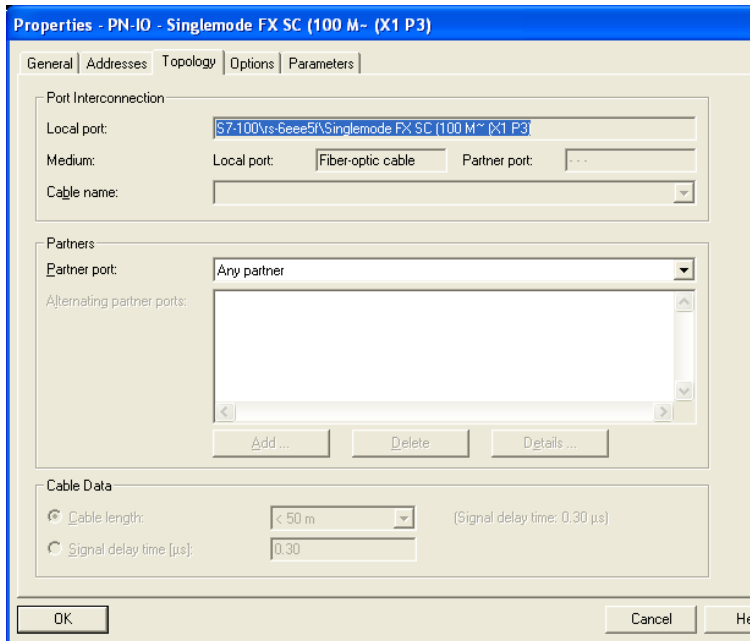

Figure 19: Dialog for entering the topology
- Under `Port Interconnection/Local port`, select the required setting for the port (see figure 19).
- Under `Partner/Partner port`, select the required setting for the partner port (see figure 19).